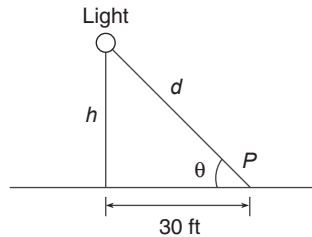

Figure P23
- 23.\* A certain spherical street lamp emits light in all directions. It is mounted on a pole of height  $h$  (see Figure P23). The brightness  $B$  at point  $P$  on the sidewalk is directly proportional to  $\sin \theta$  and inversely proportional to the square of the distance  $d$  from the light to the point. Thus